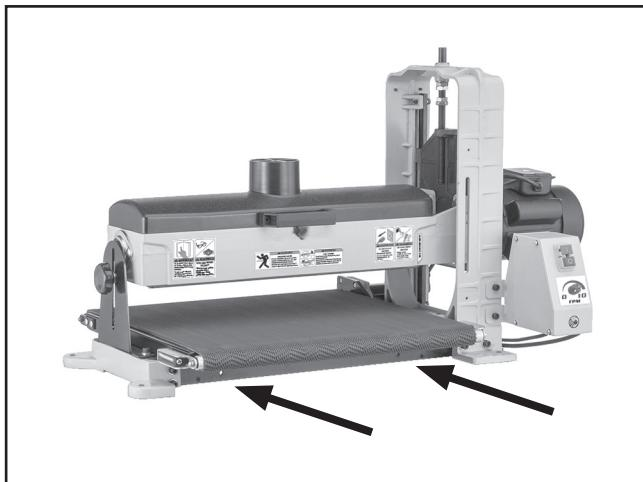

Figure 14. Locations for lifting.
11. Use assistants or insert forklift forks underneath sander at locations shown in **Figure 14**.